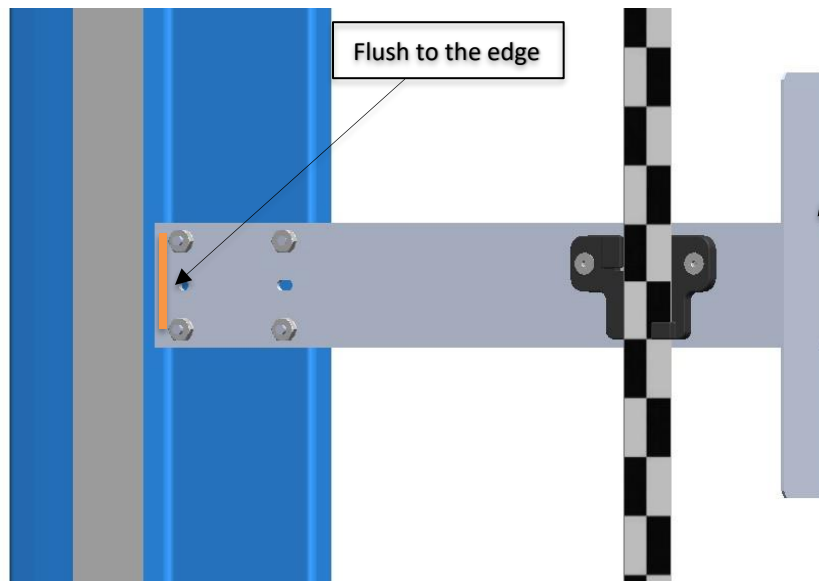

Figure 15: Tape Clip assembly Alignment
- Ensure that the assembly is sitting flush to the rail as shown in Figure 15.